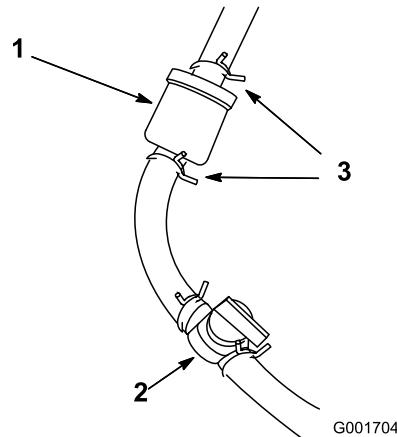

Figure 45
1. Close the fuel-shutoff valve (Figure 45).
2. Place a drain pan under the filter, loosen the hose clamp on the carburetor side of filter, and remove the fuel line from the filter (Figure 45).